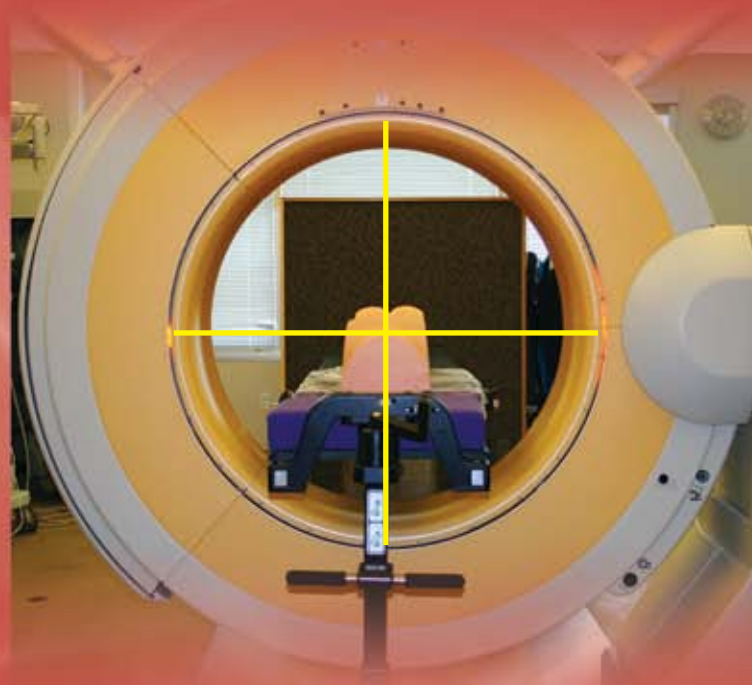

Figure 9. For 3D Images, patient anatomy should be isocenter in the gantry
3. Position the gantry so that the patient is isocenter (see Figure 9).